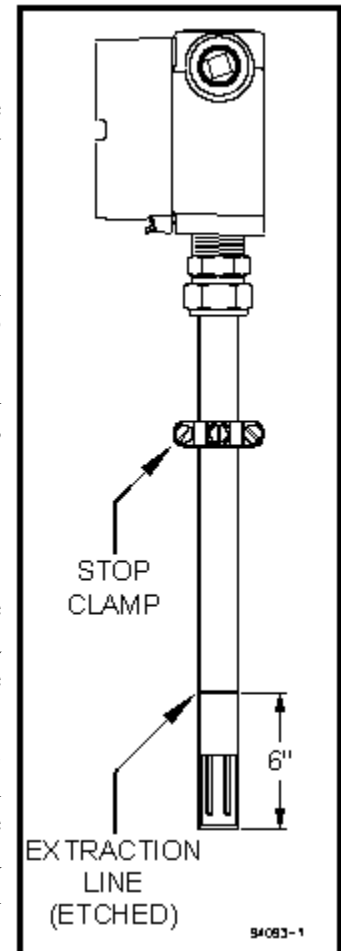

Figure 4 Probe Stop Clamp
3. Verify stop clamp location (see Figure 4). A stop clamp is attached to each FTP probe as an indication of its insertion depth. It is important that the stop clamp is securely in place to position the sensors in the correct location and to ensure that the probes do not contact the opposite pipe wall. Contact with the pipe wall could damage the probe. The clamp’s location is determined based on your submitted pipe diameter, as shown in SECTION 6.2, and is marked with a groove on each probe shaft. Refer to this mark if a stop clamp is inadvertently moved. When installed in the line, the sensors in the probe should be positioned in the middle of the pipe.